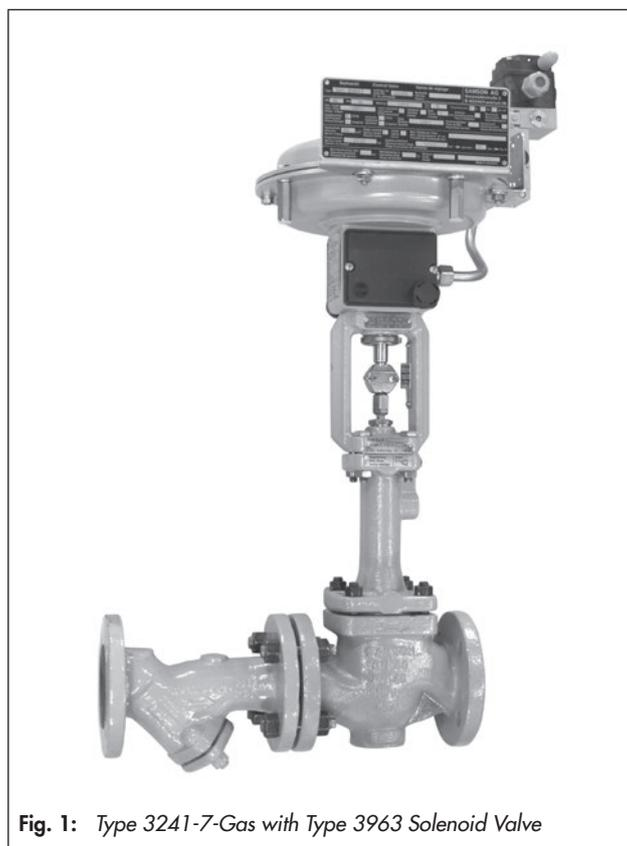

Fig. 1: Type 3241-7-Gas with Type 3963 Solenoid Valve
- **Type 3241-7-Gas** (Fig. 1) · Pneumatic control and quick-acting shut-off valve with Type 3277 Actuator (see Data Sheet ► T 8310-1)
²⁾ Minimum clearance to remove actuator due to solenoid valve and bracket (see Fig. 1)